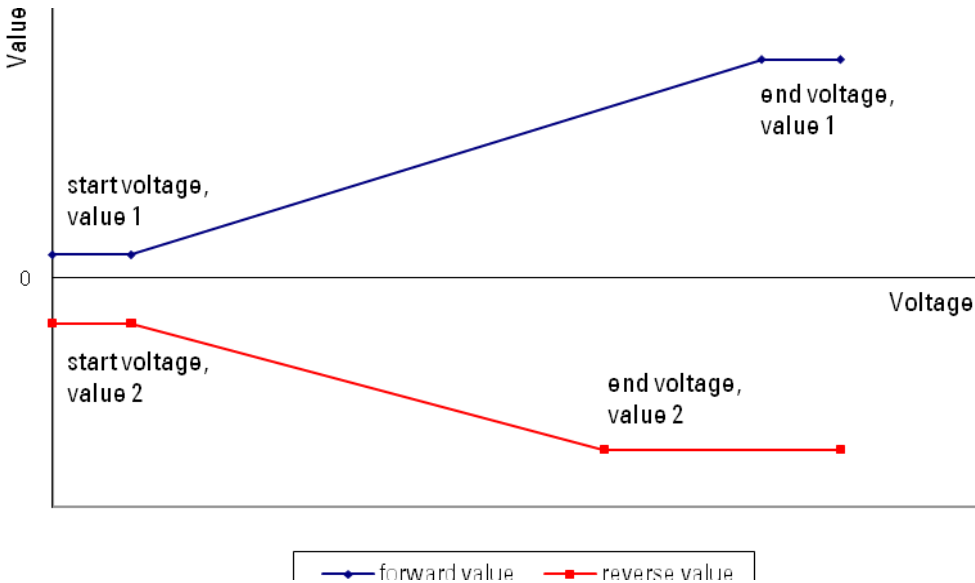
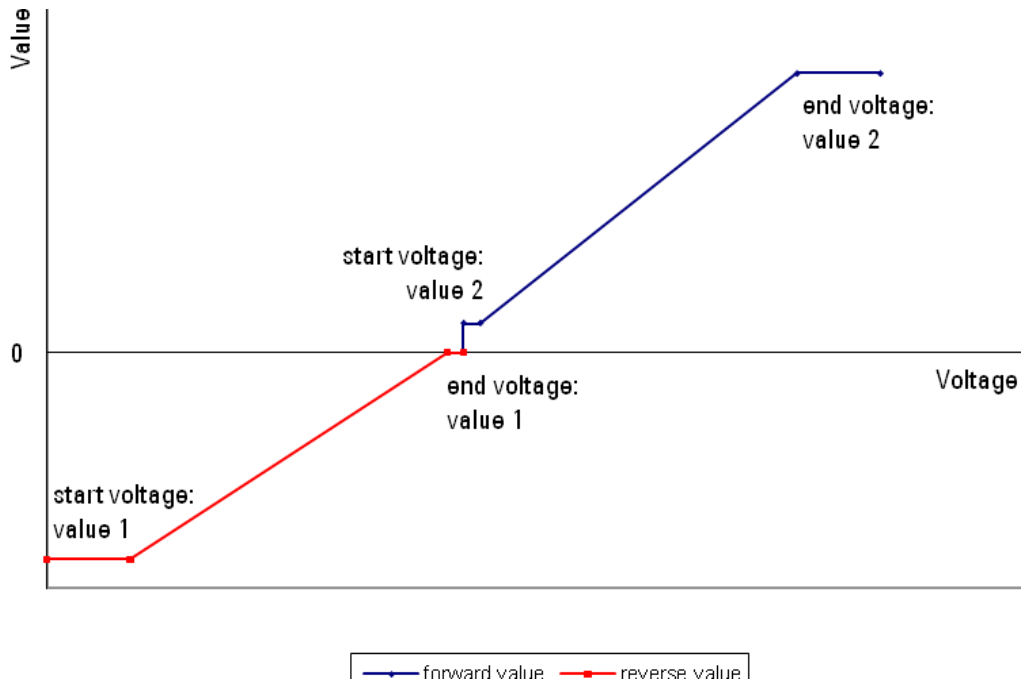

Figure 20 Standard throttle configuration
Figure 21 Directional throttle configuration
- Define the throttle voltage input: this is the relationship between the throttle voltage and the throttle value. Separate relationships can be specified for forward and reverse. Each relationship has two points, a start and an end. The points are configured differently for standard and directional throttles as shown in Figure 20 and Figure 21 respectively.